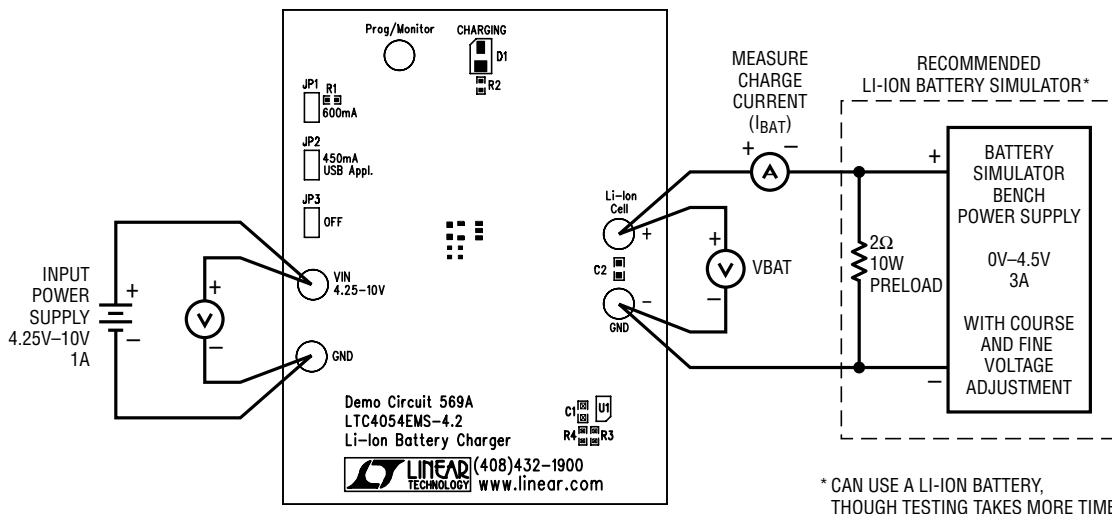

Figure 1. Proper Measurement Equipment Setup
Demonstration circuit 569 is easy to set up to evaluate the performance of the LTC4054-4.2. Refer to Figure 1 for proper measurement equipment setup and follow the procedure below:
3. Connect the demo board to the battery simulator as shown in Figure 1.